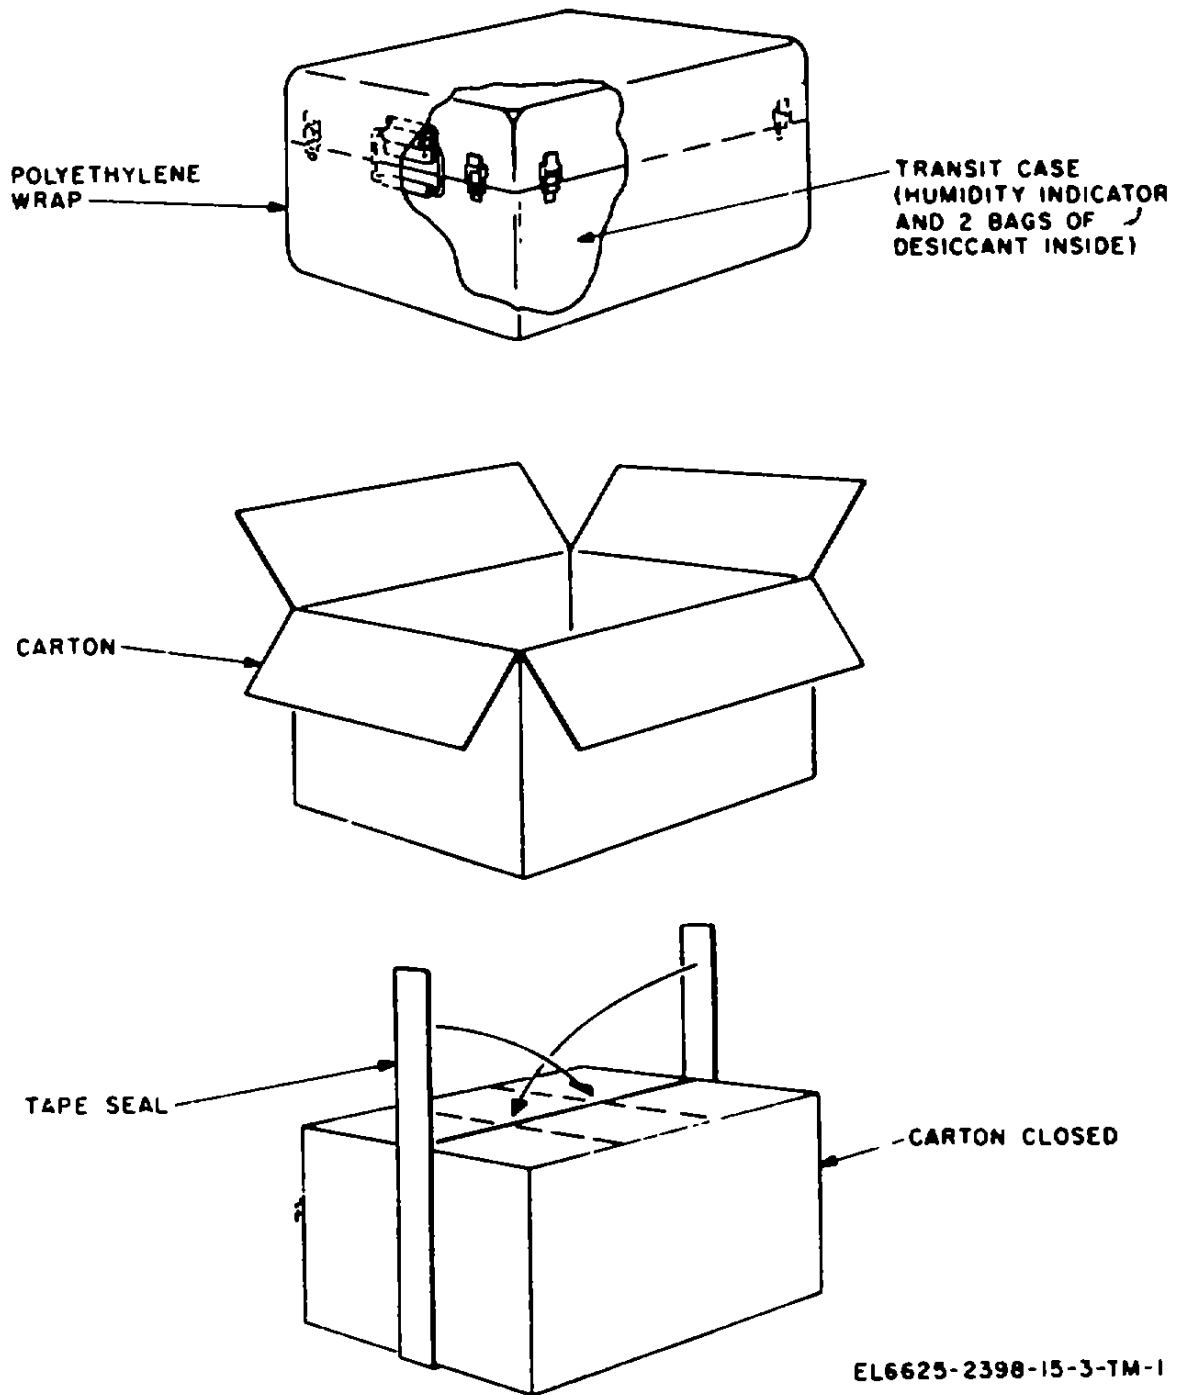

Figure 2-1. Packaging of Test Facilities Set AN/TPM-24(V)1.
a. *Packaging Data.* When packed for shipment, the complete test facilities set is placed in a polyethylene wrap and packed in a single carton which is then sealed. Figure 2-1 illustrates the method employed in packing the test facilities set. The dimensions of the shipping container are 22 3/4 by 21 by 20 1/4 inches, and its volume is 5.72 cubic feet. The test facilities set when packaged weighs approximately 85 pounds.
- (1) Cut the seal and fold back the carton cover.
- (2) Remove the polyethylene wrapped transit case.
- (3) Open the polyethylene wrap and remove the transit case.
- (4) Open the transit case and inspect the humidity indicator (should be blue). If the humidity indicator is pink, inspect components for moisture damage.